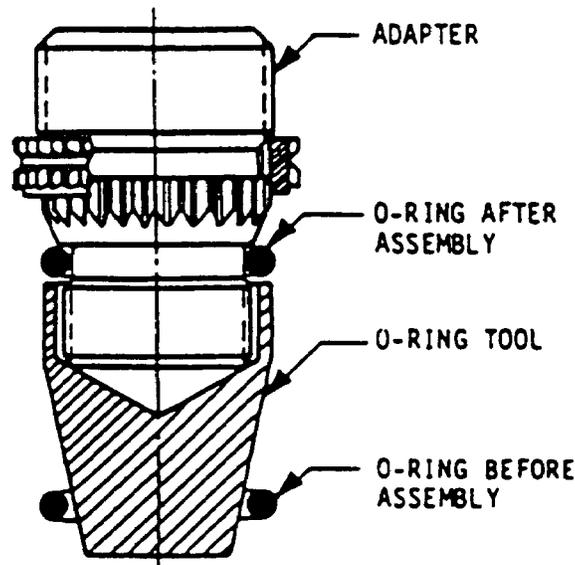

FIGURE 2
- 4.1.1 Place the O-ring tool (per Table II) over the small thread of the fitting. Submerge the adapter, bullet and O-ring in the fluid to be used in the working system, or a lubricant compatible with the system fluid and all components. Slide the O-ring over the bullet and onto the fitting. Be sure that the O-ring is not twisted and is properly seated in the groove of the fitting. See Fig. 2.